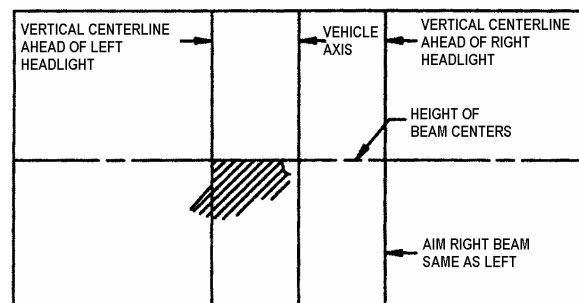

FIGURE 59: HIGH-INTENSITY ZONE (SHADED AREA) OF A PROPERLY AIMED LOWER BEAM ON THE AIMING SCREEN 7.6 M (25FT) IN FRONT OF VEHICLE
6. Low beam headlights are aimed so that the top edge (the cutoff) of the high-intensity zone is at the vertical location as per Table 1 and the left edge of the high-intensity zone is at the vertical centerline of the headlight (Fig. 59).